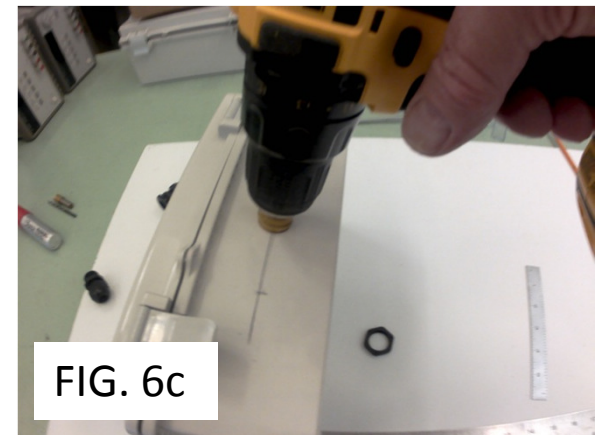

FIG. 6c
- Use a bit to drill  $13/16''$  holes for the PG13.5 cord grips (6 total) (e.g., Fig. 6c). Note: a step-type drill bit works well for this.